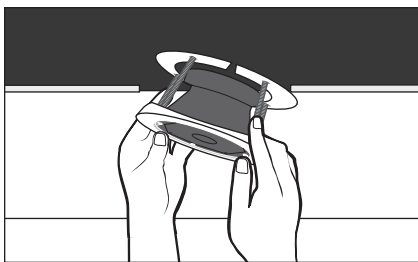

Figure 8a.
a) Hold the speaker's front lip as shown in Fig. 8a and push mounting screws toward each other so that speaker fits through the hole;